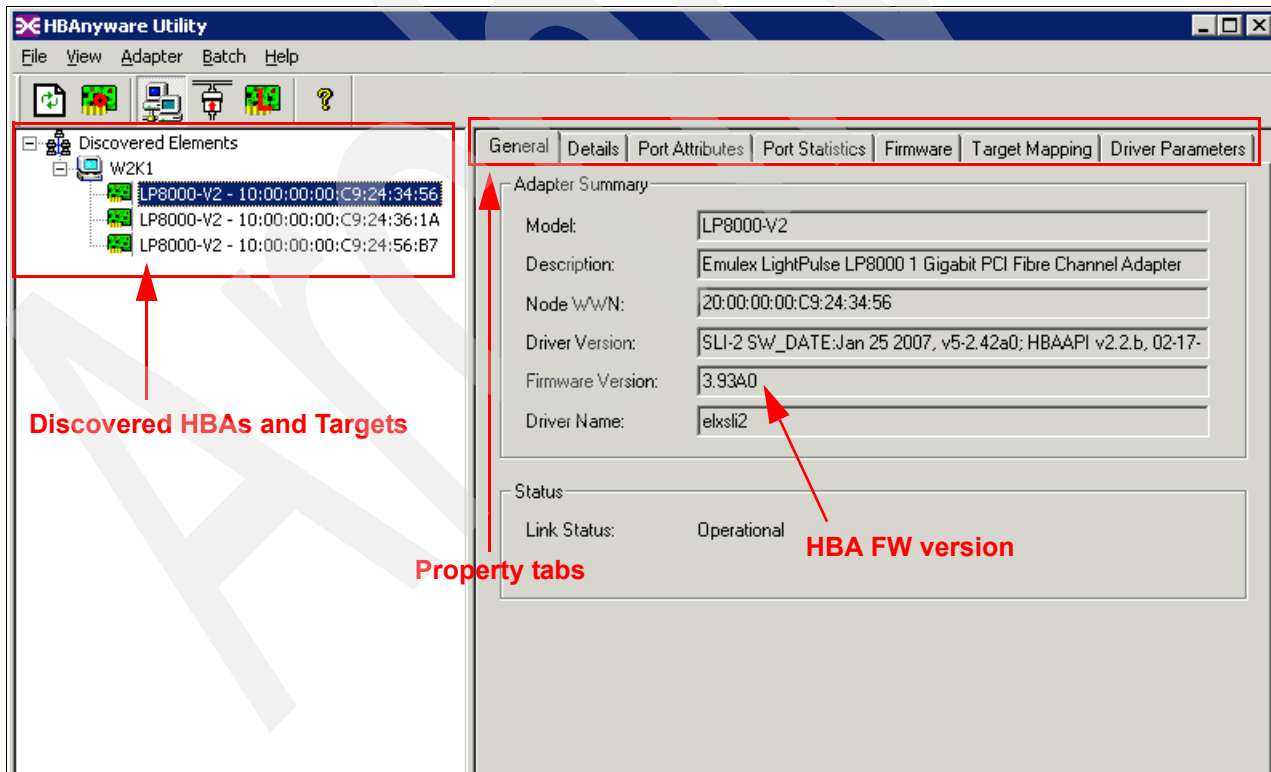

Figure 7-77 HBAware Utility main window
2. The initial discovery information for the host appears, as shown in Figure 7-77.